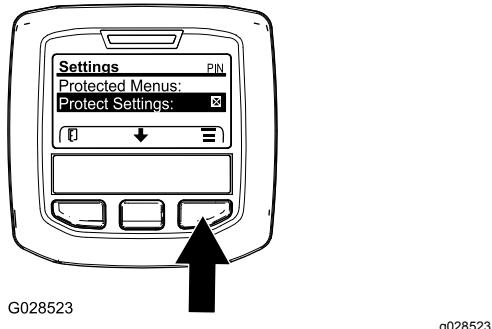

Figure 44
- Access the protected menu and unlock the protected settings submenu (Figure 44); refer to Accessing Protected Menus \(page 21\).